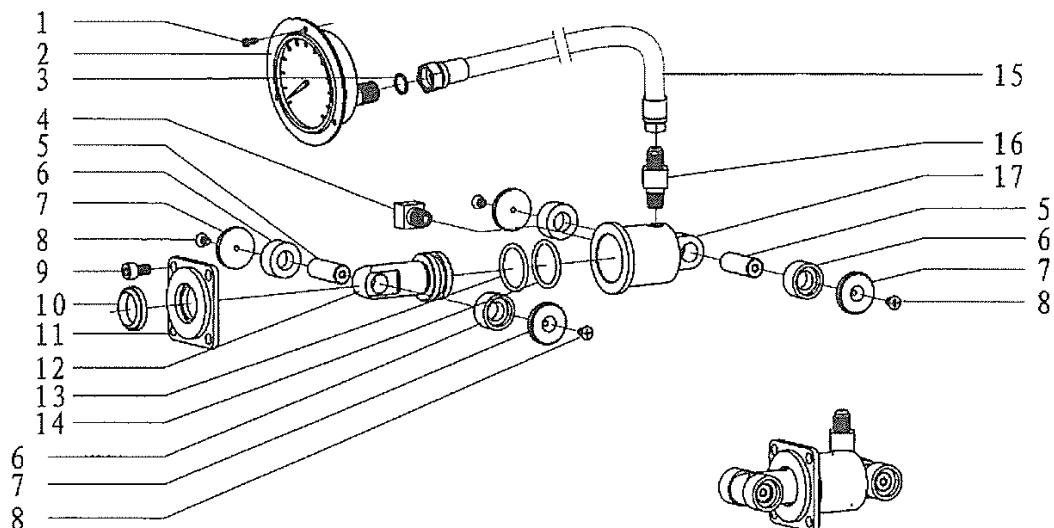

Fig24.
8.13 Sensor hydraulic cylinder (Fig24. Table24)